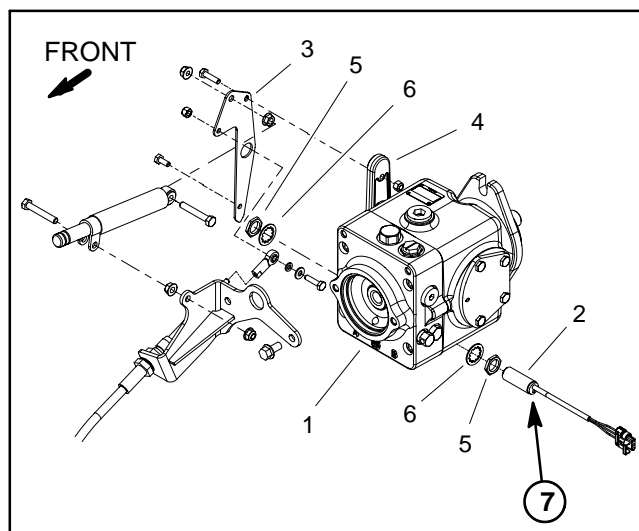

Figure 31
The traction neutral switch is a normally open proximity switch that closes when the traction pedal is in the neutral position. The switch mounts to a bracket on the traction pump (Fig. 31). The sensing plate for the traction neutral switch is the traction lever bracket that is secured to the pump control arm. The neutral switch is used as an input for the TEC controller.
2. Turn ignition switch to the ON position (do not start engine) and check LED on cable end of neutral switch (Fig. 31). LED **should be** illuminated when the traction pedal **is** in the neutral position.